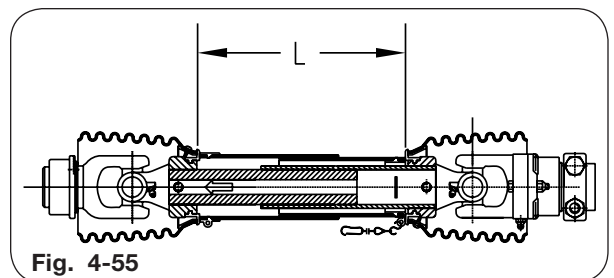

Fig. 4-55
1. Fully collapse PTO shaft and measure length “L” (Fig. 4-55).